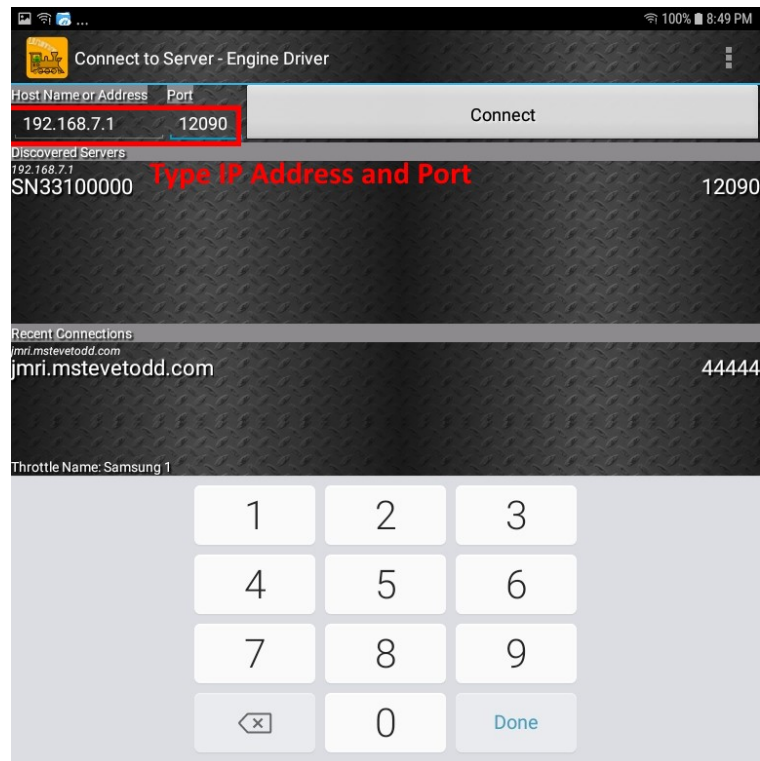

Figure 21 Connecting manually to the WFD-30/31 WiThrottle Server
- (11) **Only if the WFD-30/31 is not discovered** for some reason, after waiting a few moments, you must type the IP Address of the WFD-30/31 unit always 192.168.7.1 in the “Server Address” box at the top-left and the port value of 12090 in the port textbox as Figure 21, then tap the “Connect” button.